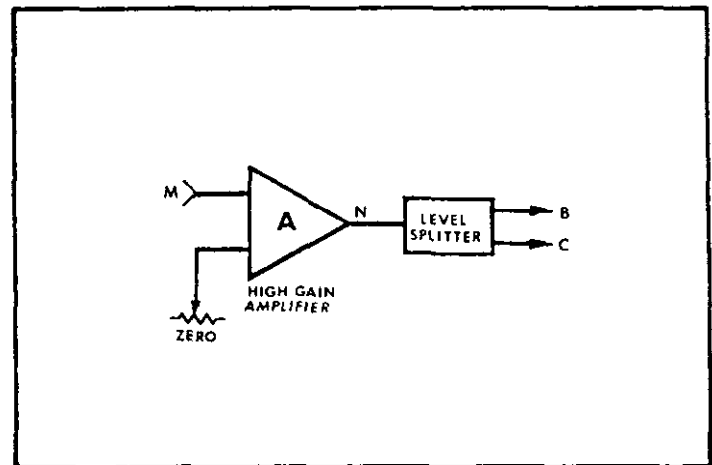

FIGURE 13. Zero Crossing Detector
c). "HOLD" Gate Circuit. Refer to Figure 13 for identification of switches S1 and S2. The "HOLD" gate circuit is composed of gates QA501A, QA501D, and QA502 (A, B, C, and D). Switch S1 is gate QA501A and is controlled by either the "HOLD 2" external line or the "MAX" position on the DISPLAY RATE Control. Switch S2 is the transistor Q513 which is controlled by either the "Q" output of the flip-flop or the "HOLD 2" external line. The "HOLD 1" circuit is composed of gates QA502B and QA502C.
f. Polarity Board. The Polarity Board contains various circuits which are controlled by signal "B" and "C" from the Zero Crossing Detector signal as shown in Figure 13.